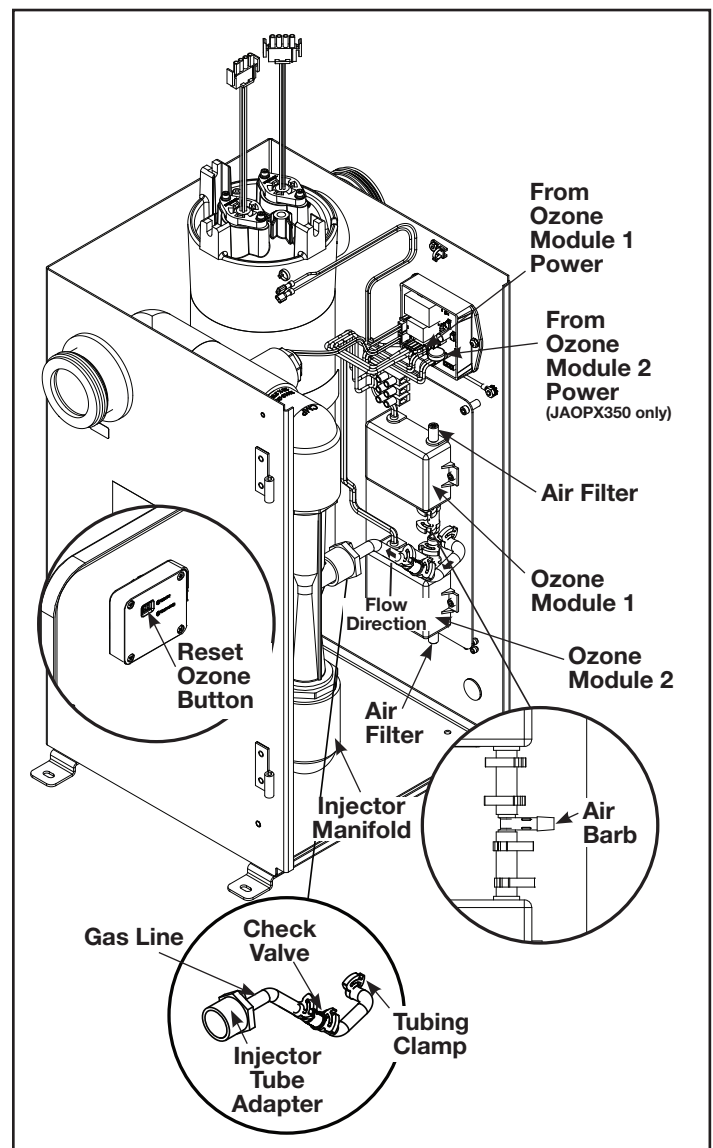

Figure 13. JAOPX200 / JAOPX350 Ozone Modules
- Reset ozone indicator by pressing the Reset Ozone button on the inside door behind the status LED indicators. See Figure 13 Reset Ozone Button inset.
- Loosen the tubing clamps on both ends of the ozone gas line. Remove the tubing assembly from the air barbs of injector tube adapter and the ozone output barb on the ozone module (used on model JAOPX200) or the T-fitting adapter (only used in model JAOPX350). See Figure 13 air barb inset.
3. Orient ozone gas line as shown in Figure 13 (note flow direction callout), ensuring the gas flows towards the injector manifold. Re-connect onto the air barbs of the injector tube adapter and the ozone output barb on the ozone module (used on model JAOPX200) or the T-fitting adapter (only used in model JAOPX350). Use pliers to secure all clamps previously removed or loosened.
5. Pull the tubing from injector tube adapter, then unthread the adapter from the injector manifold. See Figure 13 injector tube adapter inset.